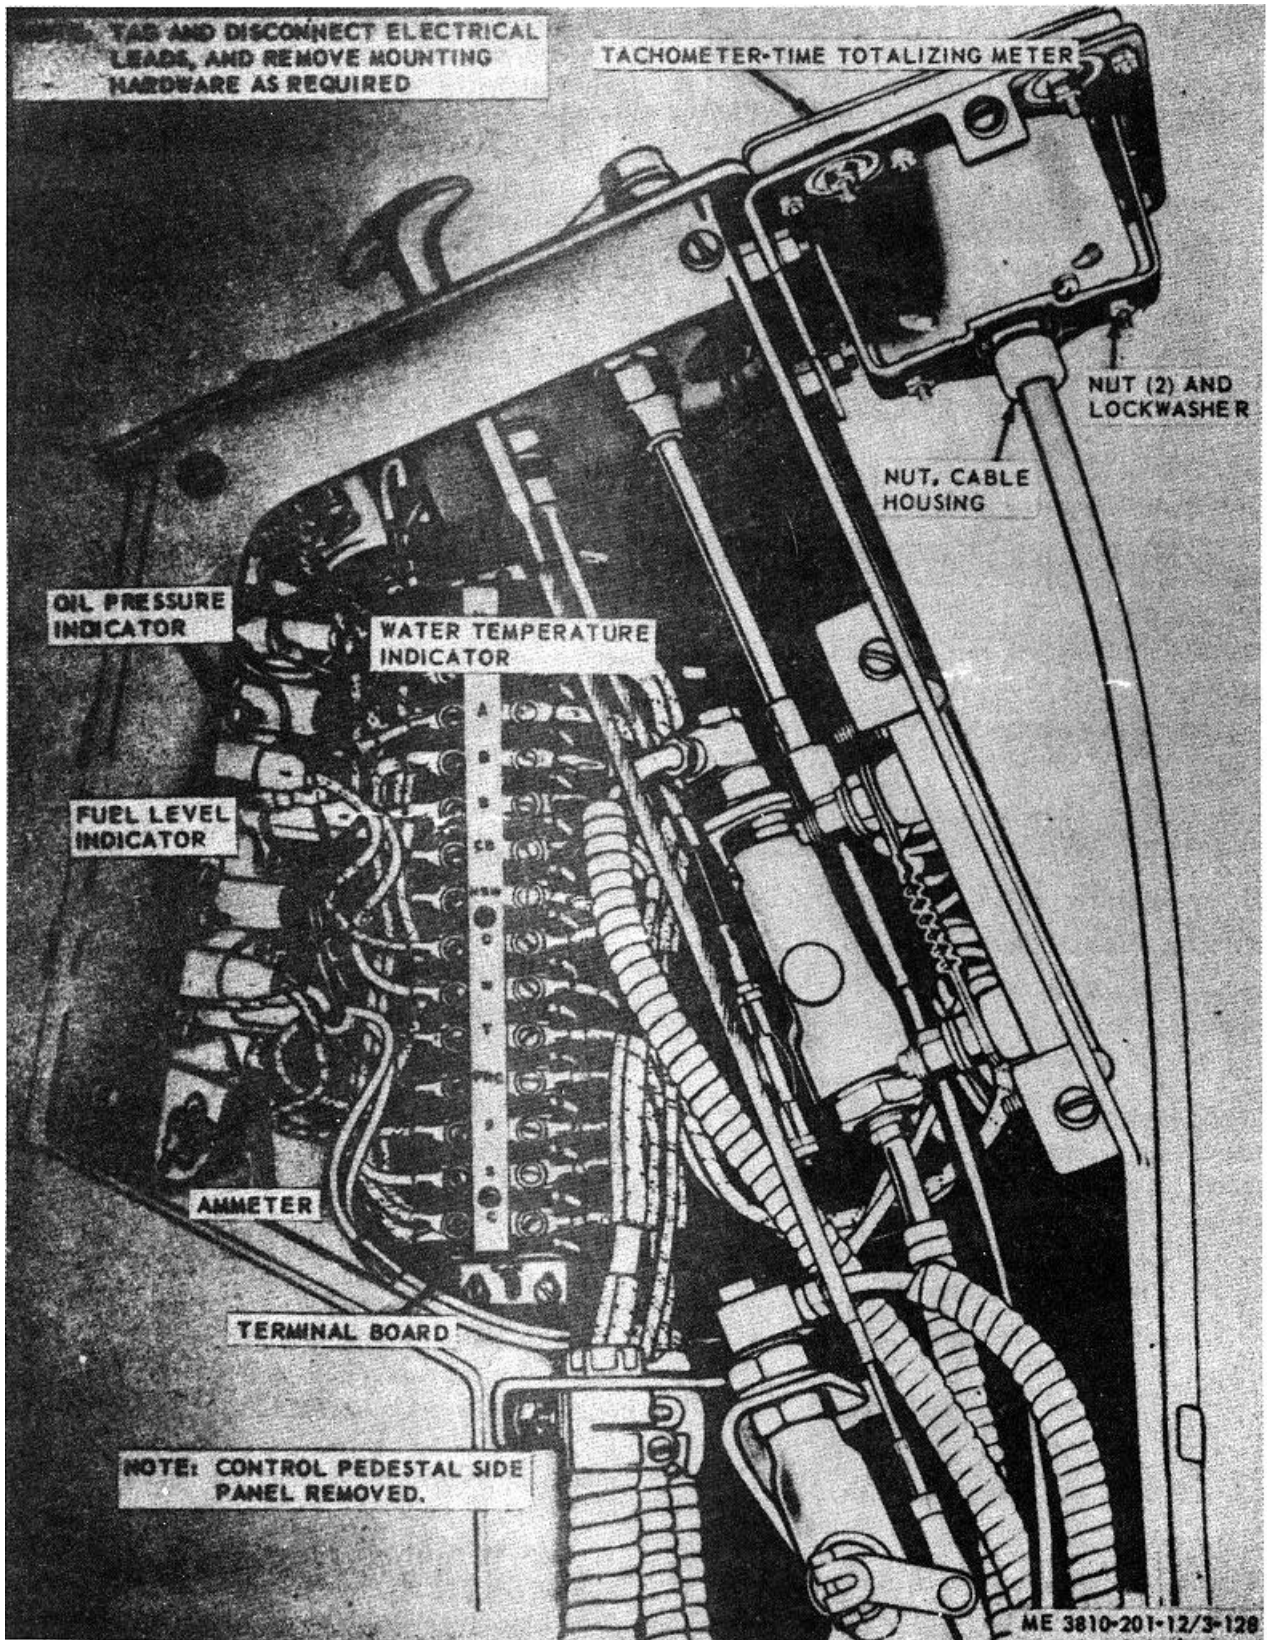

Figure 3-116. Indicator light and switch, removal and installation.
- (1) Refer to figure 3-116 and remove the low oil pressure indicator (warning) light.
- (2) Install in reverse order.
a. Removal and Installation. Refer to figure 3-116 and remove indicator (warning) light water high temperature. Install in reverse order.
(1) Refer to figure 3-116 and remove run shutdown toggle switch.
(2) Install in reverse order.
(1) Refer to figure 3-116 and remove starter push switch.
(1) Refer to figure 3-116 and remove horn push switch.